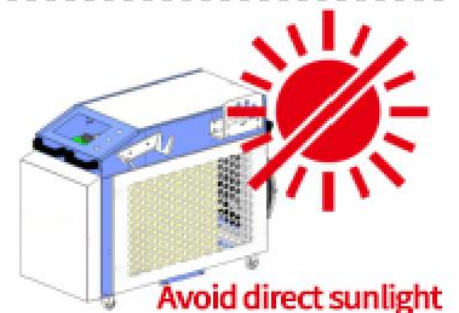

Figure 6-3 Equipment
- The product must not be installed in harsh environments such as corrosive and flammable gases, heavy dust, oil mist, metal and other conductive dust, high temperature and humidity, strong magnetic fields, direct sunlight, etc., as shown in Figure 6-3.